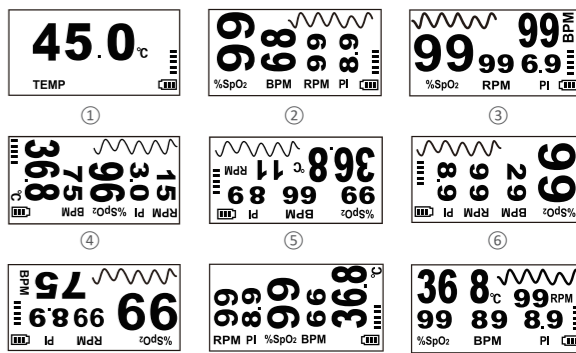

Figure 6
- There are eight display modes for your choice, See Figure 6. Figure 6. ①-⑧. Figure 6. ⑨ display SpO2 and pulse rate.